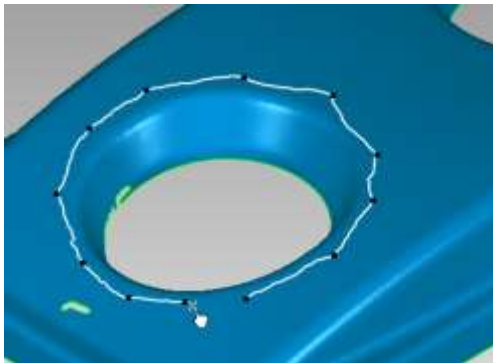

Figure 11
21. Click a set of points as shown in **Figure 11**. As you click around the region, a white boundary line will appear from click to click.